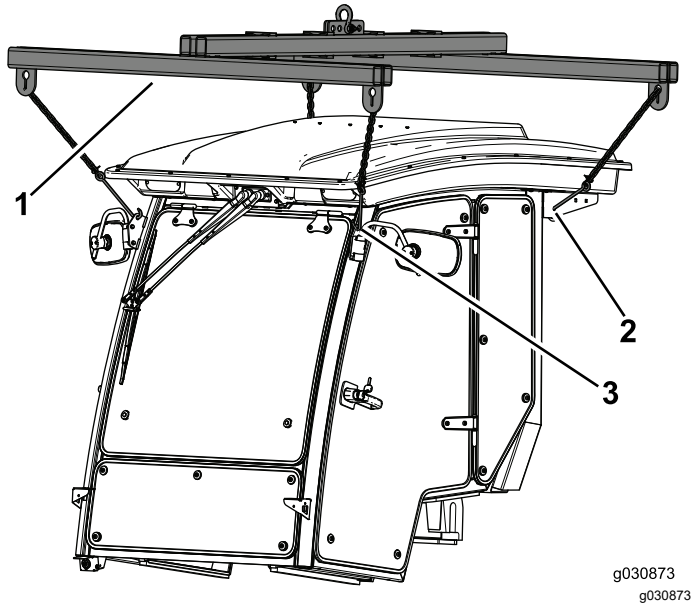

Figure 27
1. Use the 4 lift points to support the cab above the machine (Figure 27).